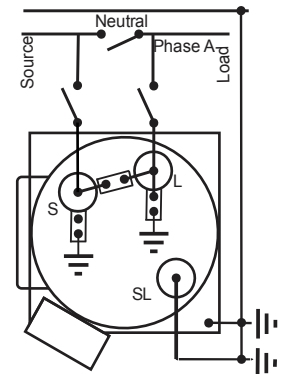

Figure 4: Connection in single phase line.
Type of connection will define regulator's nominal voltage. Typical connection diagrams are shown in figures 4, 5, 6, 7 and 8.
- Connections as per Figure 4;